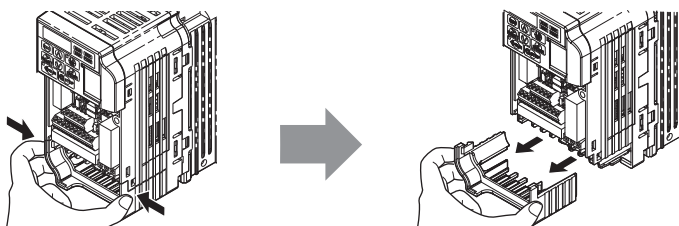

Figure 5 Remove the Bottom Cover on an IP20/Open-Chassis Drive (Models CIMR-V□BA0001B to BA0003B and 2A0001B to 2A0006B)
3. For IP20/Open-Chassis models CIMR-V□□A□□□□B, Remove the bottom cover of the drive by applying pressure to the tabs on each side of the bottom cover. Pull the bottom cover away from the drive while pushing in on the tabs to release the cover from the drive. Refer to Figure 5 for details.